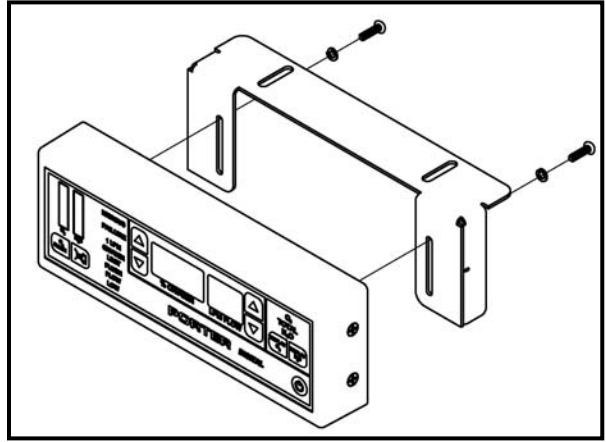

Figure 4. Control Unit under cabinet mount.
3. Use bracket shown in Figure 4 for under cabinet mounting. Turn same bracket upside-down (not shown) for table-top mount. (Kit B-5555-001)